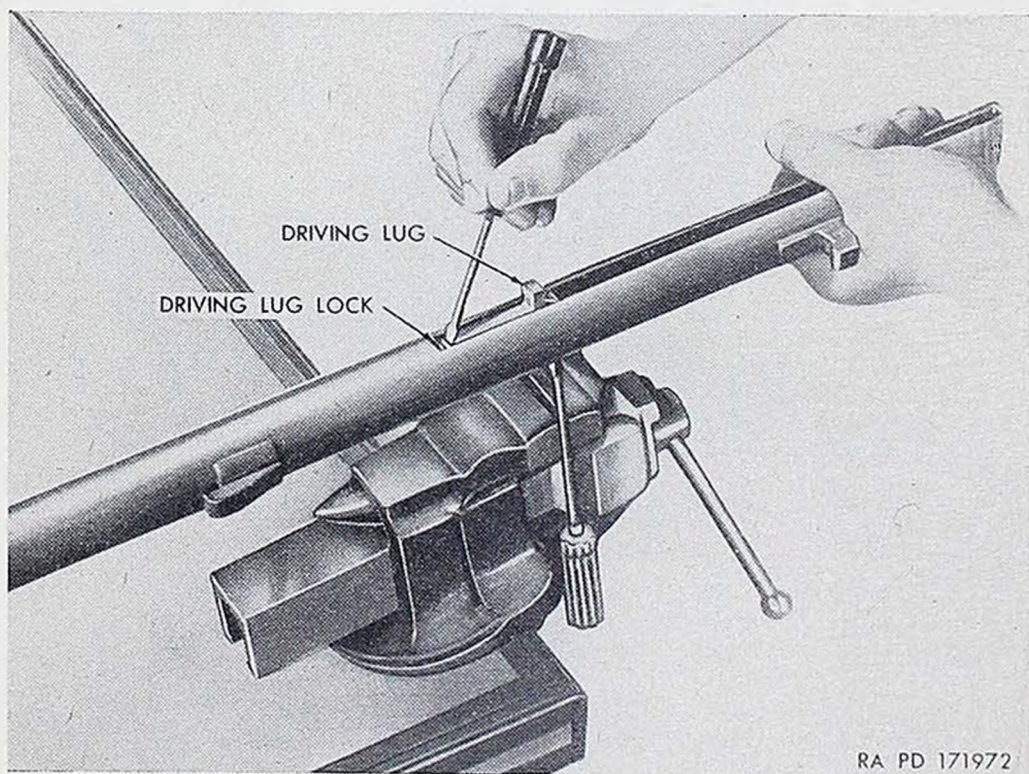

Figure 22. Removal of driving lug—20-mm pneumatic charger M4.
- (1) *Adjusting charger for right-hand or left-hand charging* (fig. 22). Determine whether the charger is to be installed for